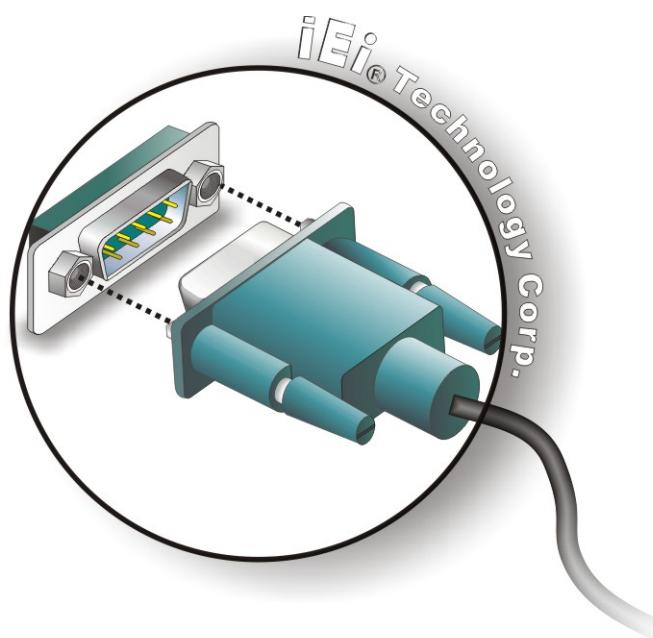

Figure 3-30: RS-422/485 Serial Device Connector
Step 2: Insert the serial connector. Insert the DB-9 connector of a serial device into the DB-9 connector on the external peripheral interface. See Figure 3-30.